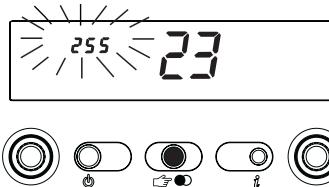

Fig. 77
- **R.A.I. - MIX R.S.I.**: turn the domestic hot water selector until the value on the display is 255 (fig. 77)